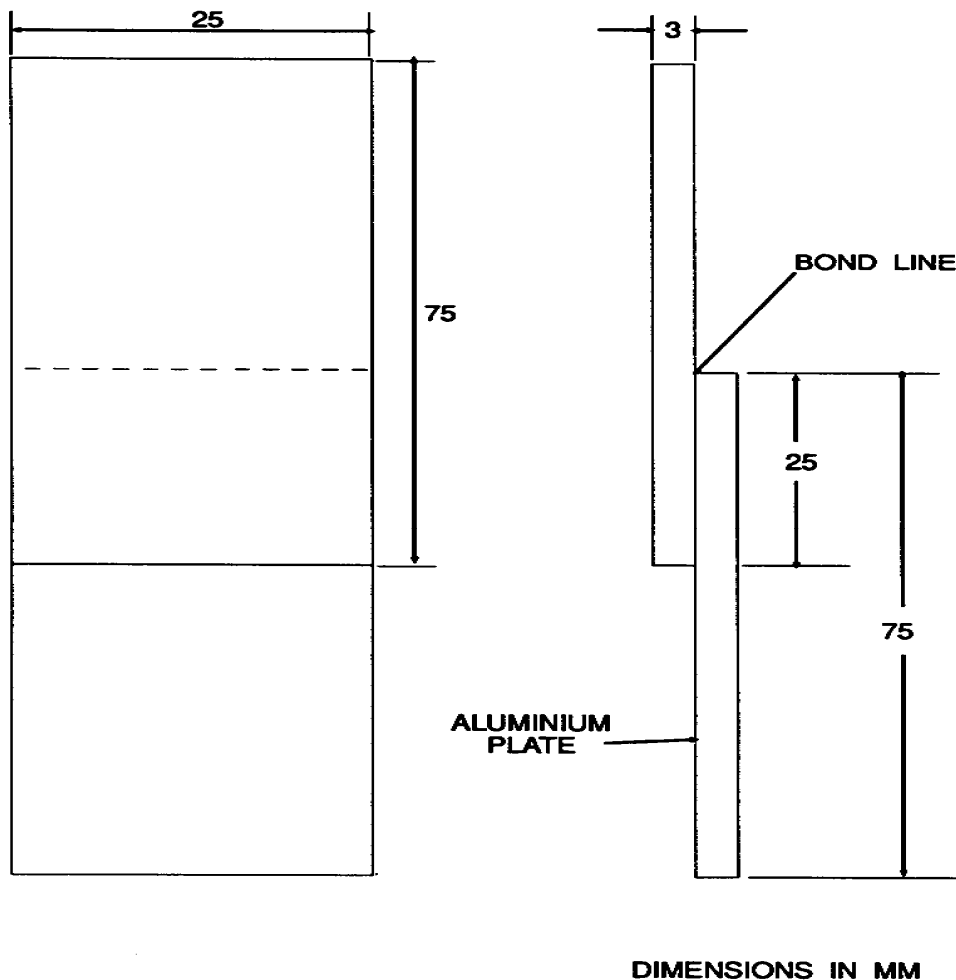

Fig. 1 TEST ASSEMBLIES
- (b) Position the test assembly centrally so that the bonded area is 625 mm² and the long edges of the plates are parallel. (See Fig 1).